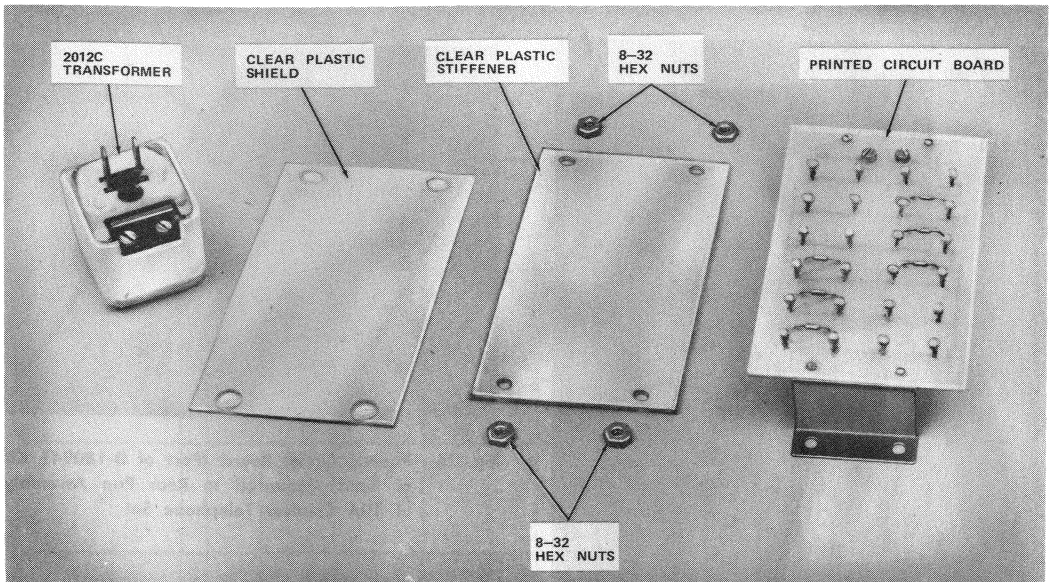

Fig. 14—D-180941 Kit of Parts
5.08 To modify the nonilluminated instruction card to an illuminated instruction card in the 10A coinless telephone set, using D-180941 Kit of Parts, (Fig. 14) proceed as follows.